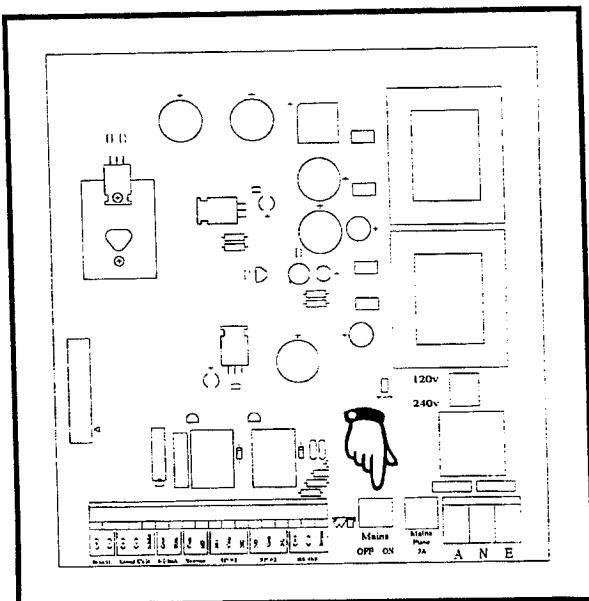

Figure 2-7
- (d) Check that the Mains ON/OFF switch is set to **OFF**. See Figure 2-7 opposite.